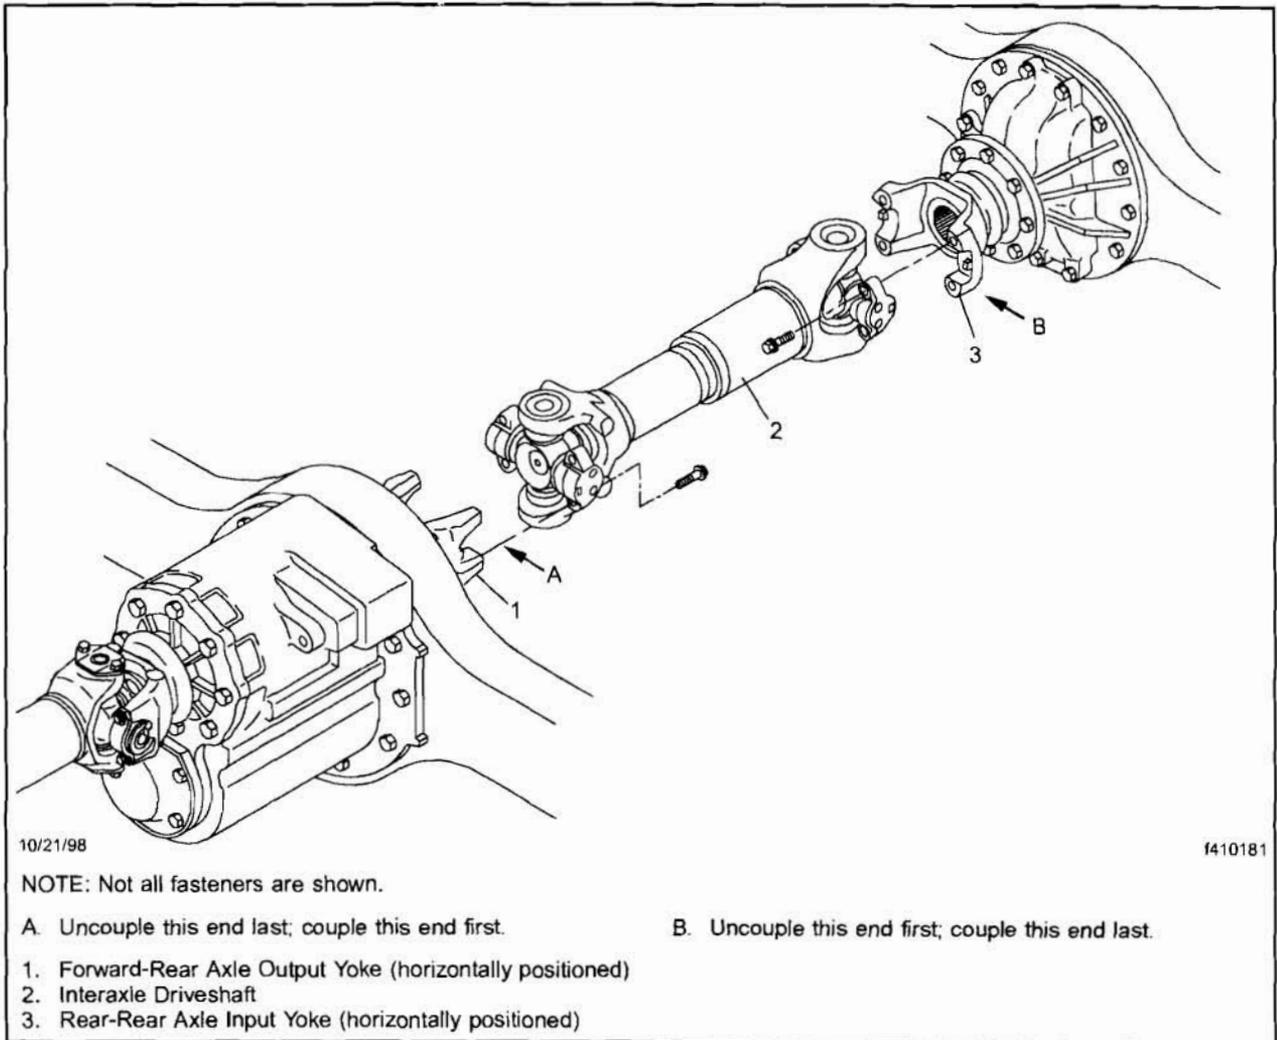

Fig. 3, Removal/Installation of the Interaxle Driveshaft
2. Rotate the interaxle driveshaft so that the axle yokes are positioned horizontally. See 7 Fig. 3.